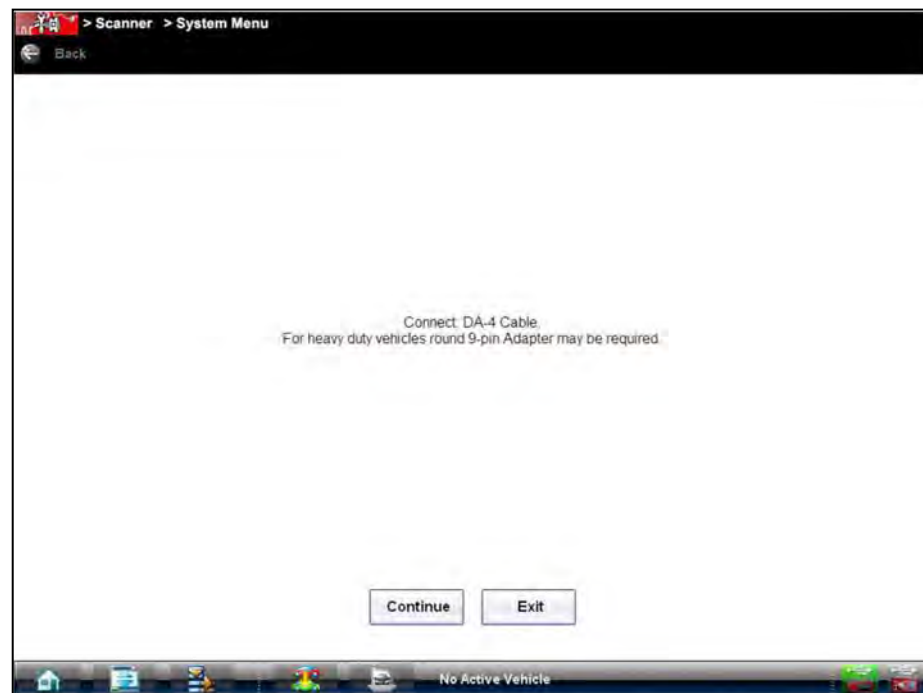

Figure 5-4 Sample generic connection message
1. Select **Start Communications** and a connection message displays (Figure 5-4).